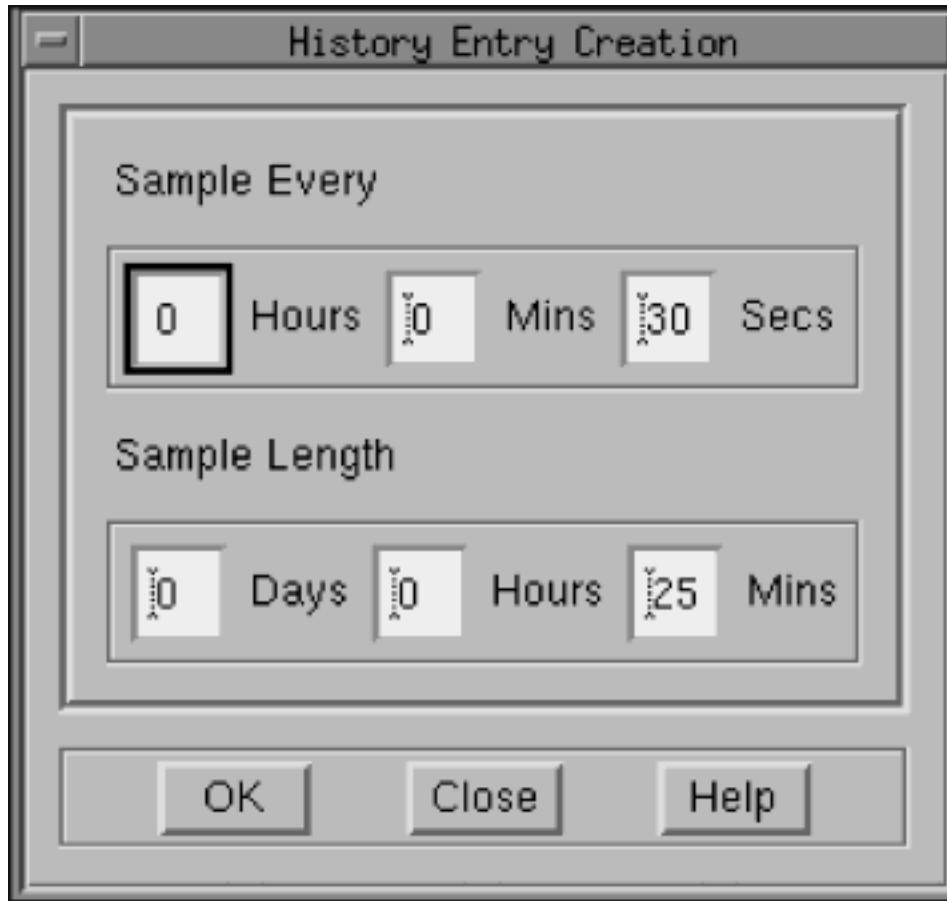

Figure 40. History Entry Creation Dialog Box
- a. Click **Add** to create a new sample period. The History Entry Creation dialog box appears, as shown in Figure 40.